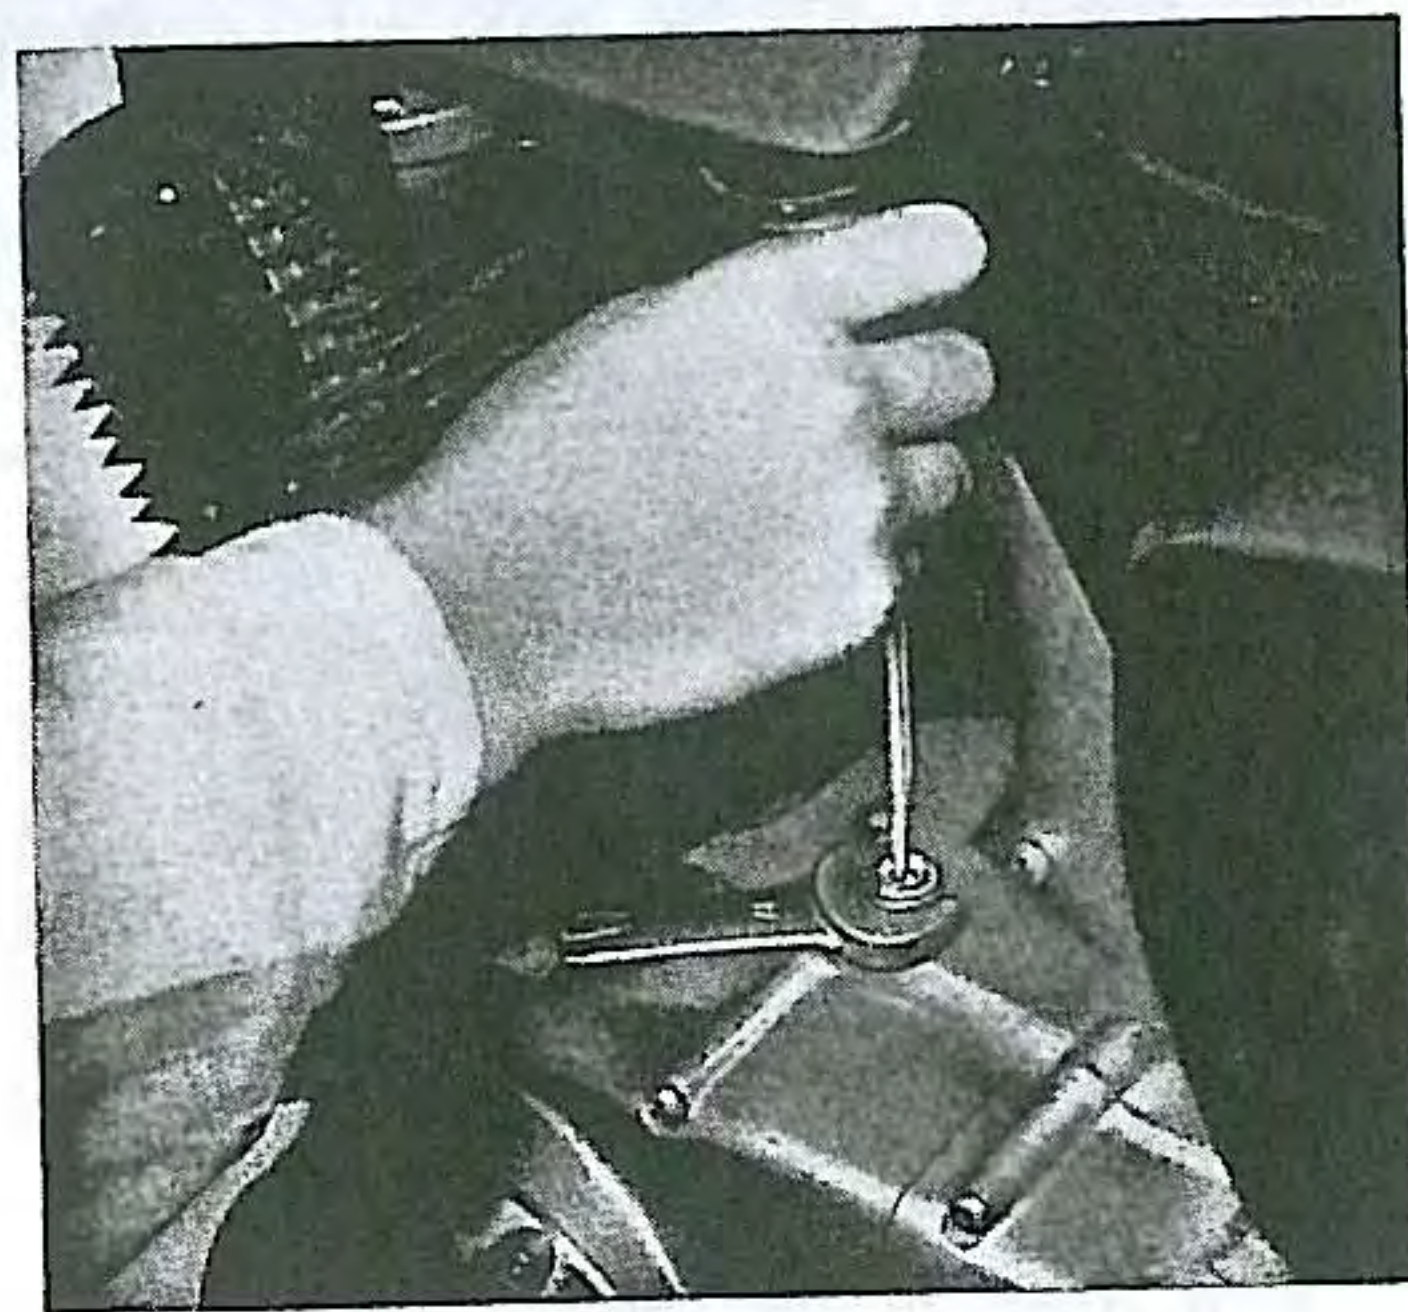

Fig. 48. Adjusting cam chain tensioner
- (8) install the cam chain tensioner with the pivot bolt. Turn the crank shaft in the direction of engine rotation a little. If the tensioner was screwed down tight during disassembling, loosen the cam chain tensioner until the guide barely separates from the end of the adjusting bolt. (Fig. 48) Tighten the lock nut. (Specifications p. 161)
- (9) Install the A. C. dynamo stator base and assemble the dynamo. (See p. 103)